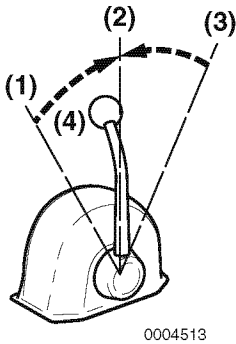

Figure 2
Use the throttle handle (Figure 2, (4)) to control acceleration and deceleration. Move the handle slowly.
2. When moving the handle between FORWARD (Figure 2, (1 or 3)) and REVERSE (Figure 2, (3 or 1)), bring the handle to NEUTRAL (Figure 2, (2)) and pause before slowly shifting to the desired position. Never shift abruptly from FORWARD to REVERSE or vice versa.